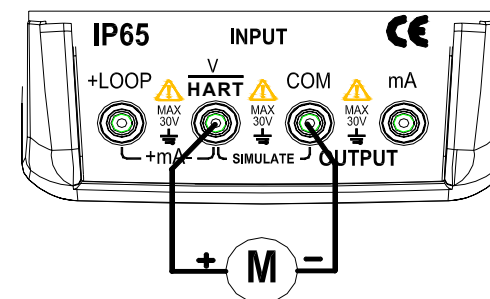

Figure 5-4
1. Insert one end of the test lead into the V jack of the input (INPUT) terminal and connect the other end to the output of the user's meter as shown in Figure 5-4: